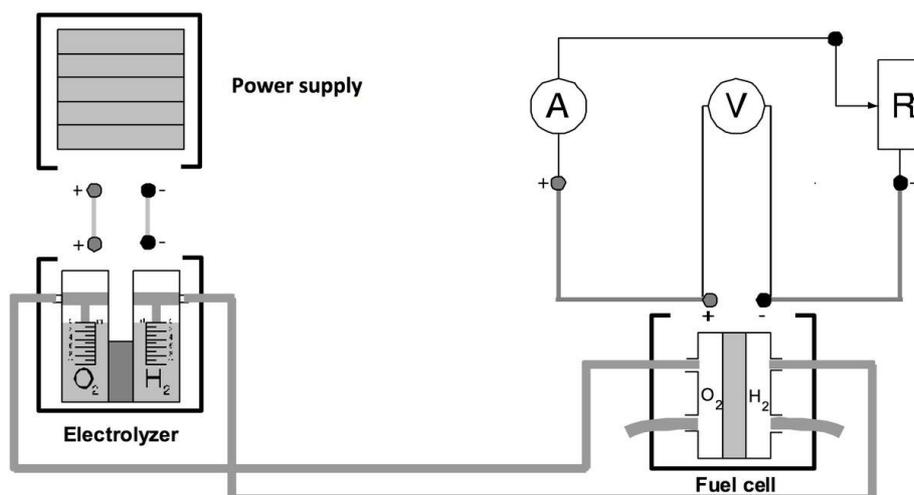

Fig. 3: Scheme of the experimental setup
- Connect the fuel cell to the electrolyser as shown in fig. 3.
- Connect the fuel cell to a charge resistance according to figure 3. Make sure that the charge is at least 1 M $\Omega$  before connecting it to the cell. Verify that the voltmeter displays an open circuit voltage between 0.8 and 1V and that zero current passes through the fuel cell.